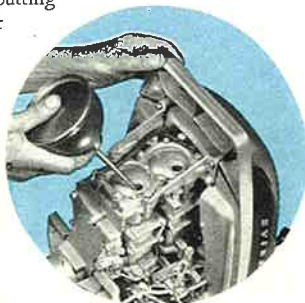
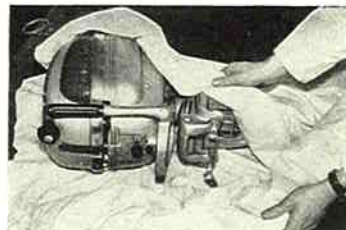

Fig. 22
Fig. 24
precaution to remove the spark plugs, put a couple of teaspoonfuls of pure lubricating oil into the cylinders (Fig. 22) and then revolve the flywheel several times to spread the oil over the cylinder walls before putting the spark plugs back. Drain and fill Gear Housing per instructions on page 4. "GEAR LUBRICATION". Wipe the entire motor with a cloth saturated with oil. (Fig. 23) An exterior film of oil won't hurt any piece of machinery, but dampness and rust **WILL.** When these instructions have been carried out, wrap the motor in a piece of canvas, an old blanket, or in heavy paper. (Fig. 24) and store in a dry place.
WHEN READY TO USE IT AGAIN If your motor has been idle for some time, or has been stored without following the instructions, "Storing the Motor Away", it is a good plan to squirt a little pure lubricating oil into the cylinders through the spark plug holes. (Fig. 22) This done, the flywheel should be revolved a few times, to spread the oil around the cylinder walls.
8. Put about two to three tablespoonfuls of oil, of the kind you mix with gasoline, in each cylinder, through each spark plug hole, (Fig. 22) and with the spark plugs removed and both wires grounded rotate flywheel rapidly by pulling starter handle. Repeat this process several times, then put spark plugs in cylinders, fill fuel tank with new fuel mixture and proceed to start motor.